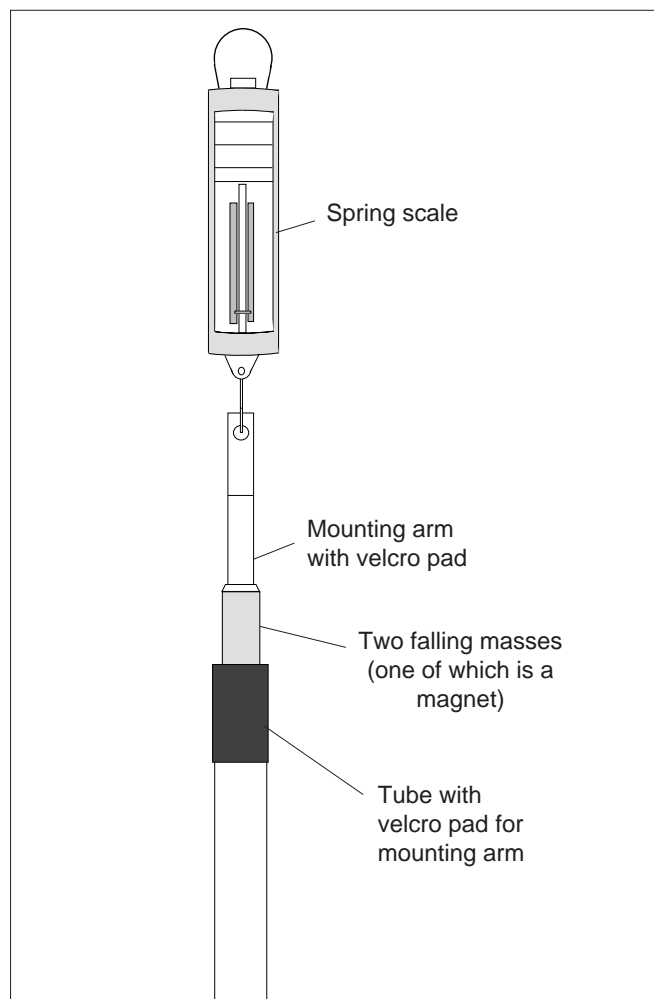

Figure 1 Equipment and Setup
The equipment and setup are shown in Figure 1. Two falling masses are included with the apparatus. They are seemingly identical, but one is a magnet, the other is not. A spring scale is included so you can show that the mass shown on the scale increases as the magnet falls through the tube, but not as the unmagnetized mass falls through.
1. Set up the equipment as shown in Figure 1.